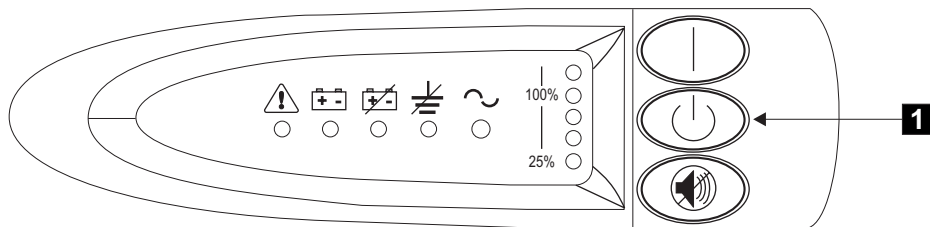

Figure 140. 2145 uninterruptible power supply front panel assembly
1. At the front of the 2145 UPS, press and hold the off button **1** for approximately five seconds or until the long beep stops. See Figure 140.